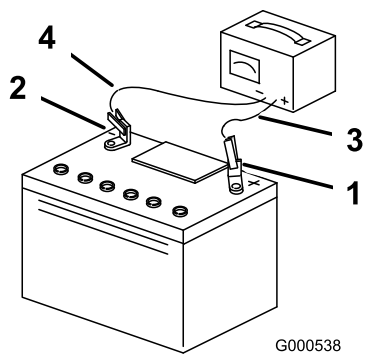

Figure 37
3. When the battery is fully charged, unplug the charger from the electrical outlet, then disconnect the charger leads from the battery posts (Figure 37).